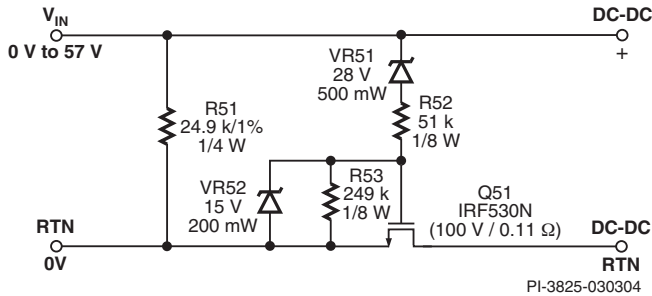

Figure 2. PoE Interface Circuit – Using a MOSFET Pass-Switch.
- MOSFET pass-switch: 97% efficient (Figures 2 and 5)
An alternative MOSFET-based third phase solution (Figure 2) connects the input to the power supply at input voltages above approximately 30 VDC ( $28\text{ V} + V_{G(Q51)}$ ). Resistor R53 prevents